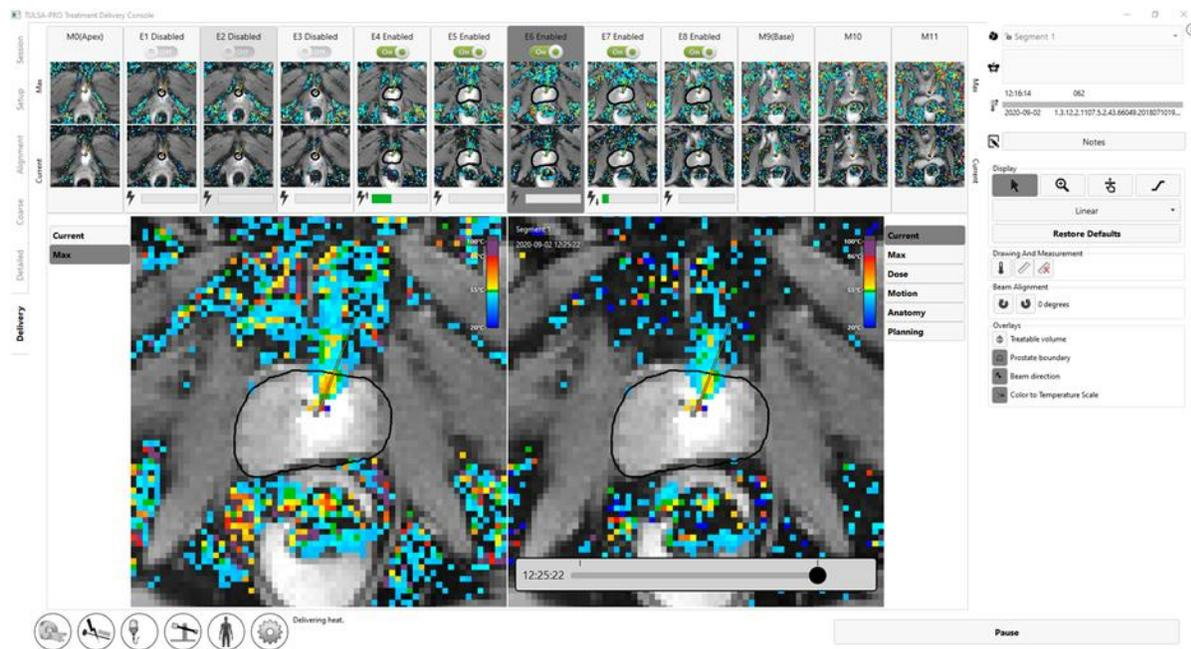
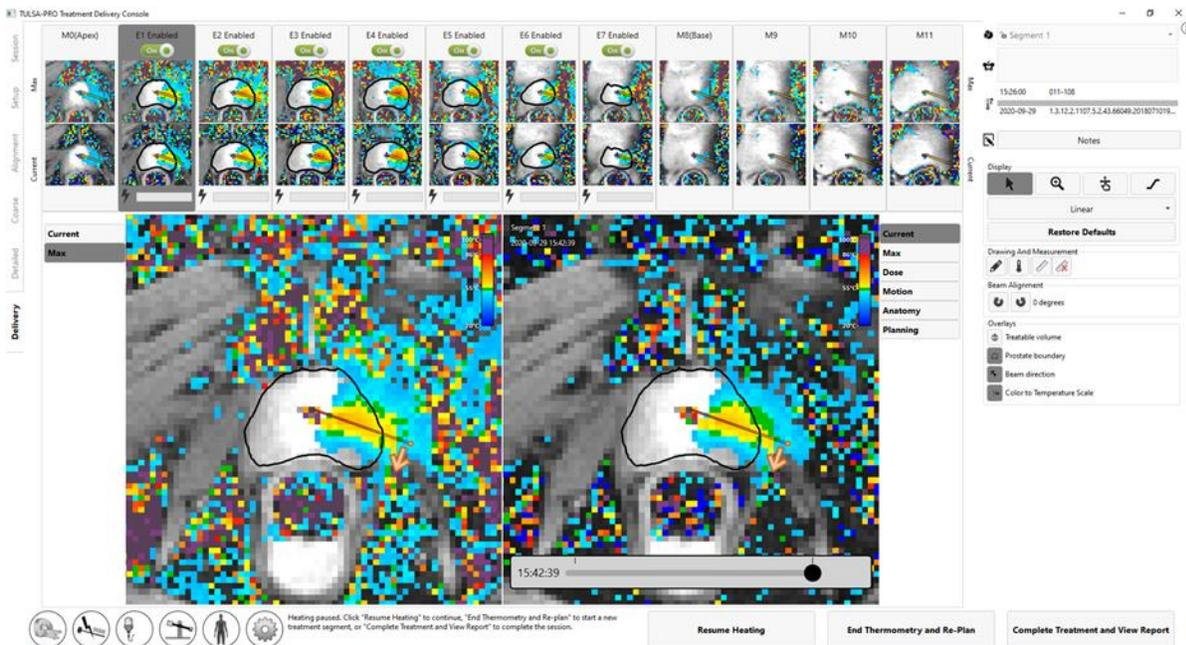

Figure 47: Ultrasound heating has begun
Figure 52: Delivery workspace with treatment and heating paused.
**Radiologist:** After receiving 26 thermometry dynamics, heating begins (*Figure 47*). Throughout the ablation, actively monitor real-time treatment images on all slices, ensuring that:
**Radiologist:** At any time during Delivery, click **Pause** in the bottom-right corner of the screen (see *Figure 47*). While in the paused state, all heating from the UA is suspended while thermometry acquisition continues (*Figure 52*).